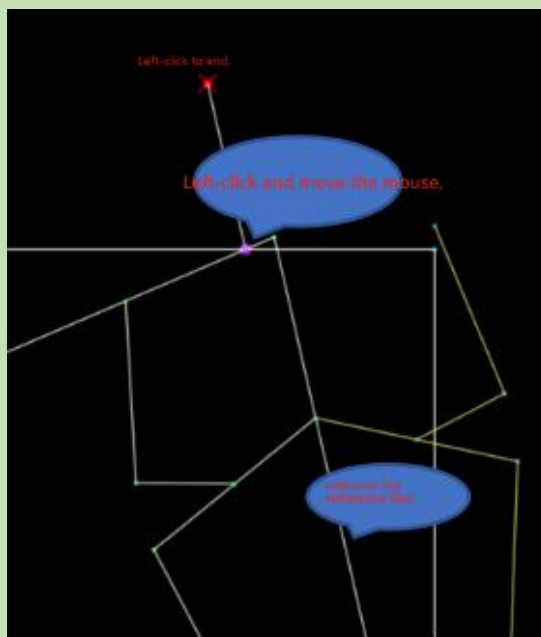

Figure 4-10
(2) Click the point outside the line with the left mouse button to make a parallel line.(Figure 4-10).